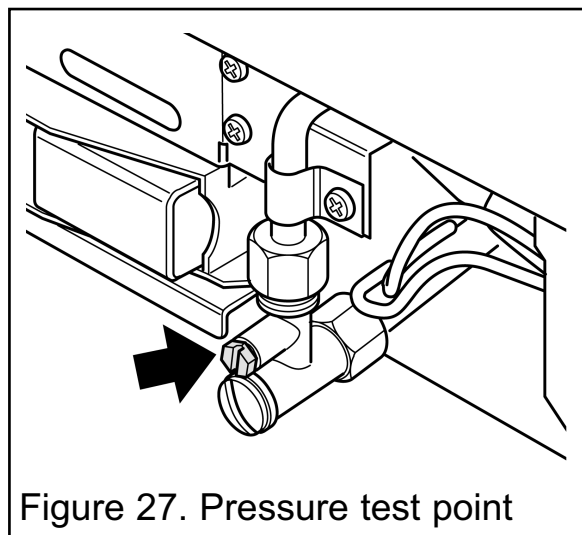

Figure 27. Pressure test point
1. Ensure that the appliance is switched OFF, then fit a pressure gauge at the test point (See figure 27).